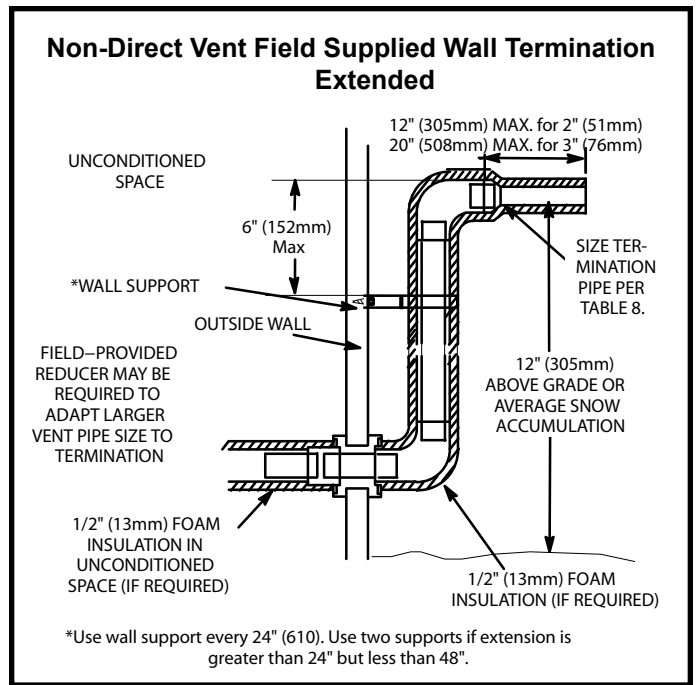

Figure 36
3. If exhaust piping must be run up a sidewall to position above snow accumulation or other obstructions, piping must be supported every 24" (610 mm) as shown in Figure 36. When exhaust piping must be run up an outside wall, any reduction in exhaust pipe size must be done after the final elbow.